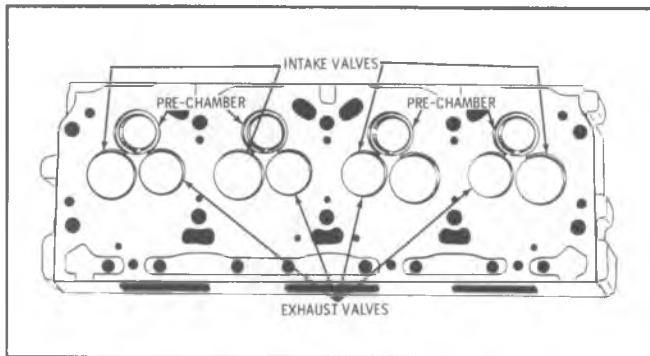

Fig. E-41—Valve Location
4. Remove valves. Keep valves separated so they can be installed in their original locations. (Fig. E-41)